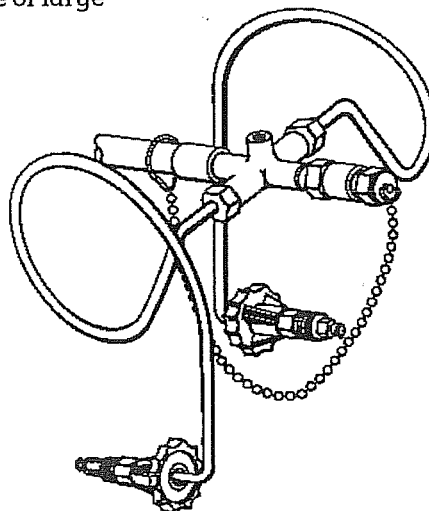

Figure 2-10
Each manifold header (and header extension) accepts two pigtails for connection to two gas cylinders. (Figure 2-10)
10. Connect the ends of the pigtails without the handles to the manifold headers and header extensions (if installed). (Figure 2-10)
11. Cap all unused header connections with a blind gland and union nut. (Figure 2-10)
11. Connect the ends of the pigtails without the handles to the manifold headers and header extensions (if installed). (Figure 2-10)
12. Cap all unused header connections with a blind gland and union nut. (Figure 2-10)